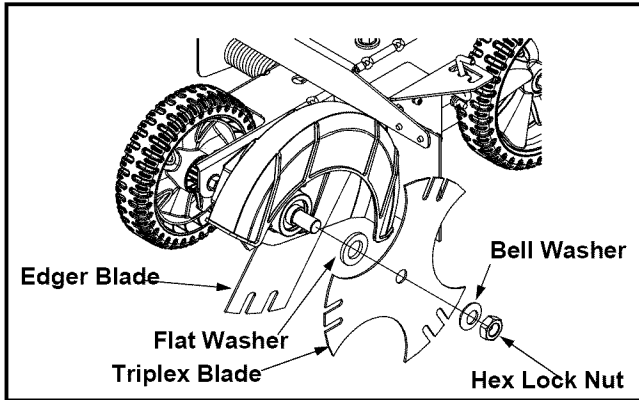

Figure 13
- Secure with the bell washer and the hex lock nut removed earlier. See Figure 13.